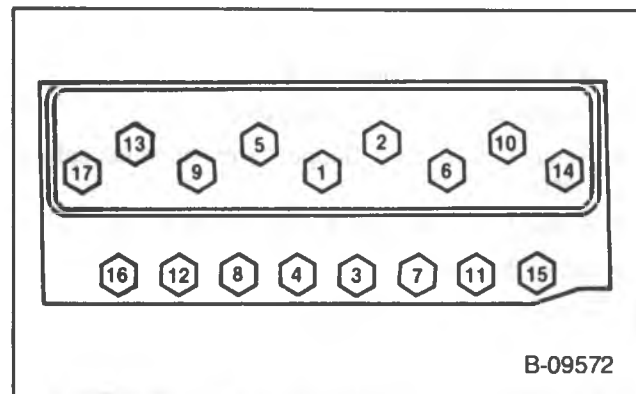

Figure 15 — Cylinder Head Bolt Tightening Sequence
Install or Connect (Figure 15)
- Cylinder head bolts, a little at a time, using the sequence shown in figure 15. Proper torque is 90 N·m (65 ft. lbs.).